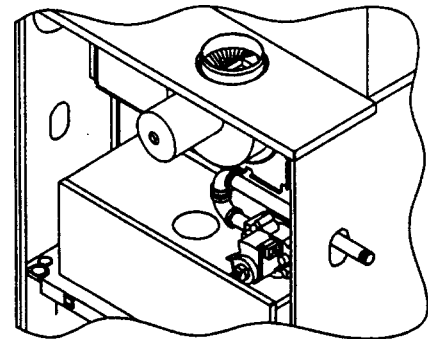

Figure 12
- Straight pipe to reach the exterior of the furnace (Figures 12 & 13).